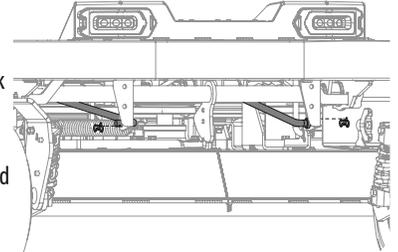

Figure 41
6. Remove the two bow-tie pins from the deck rods that secure the front center lift link brackets on the frame to the front-center lift brackets on the deck and pull the front end of the rods out of place. See Figure 41.